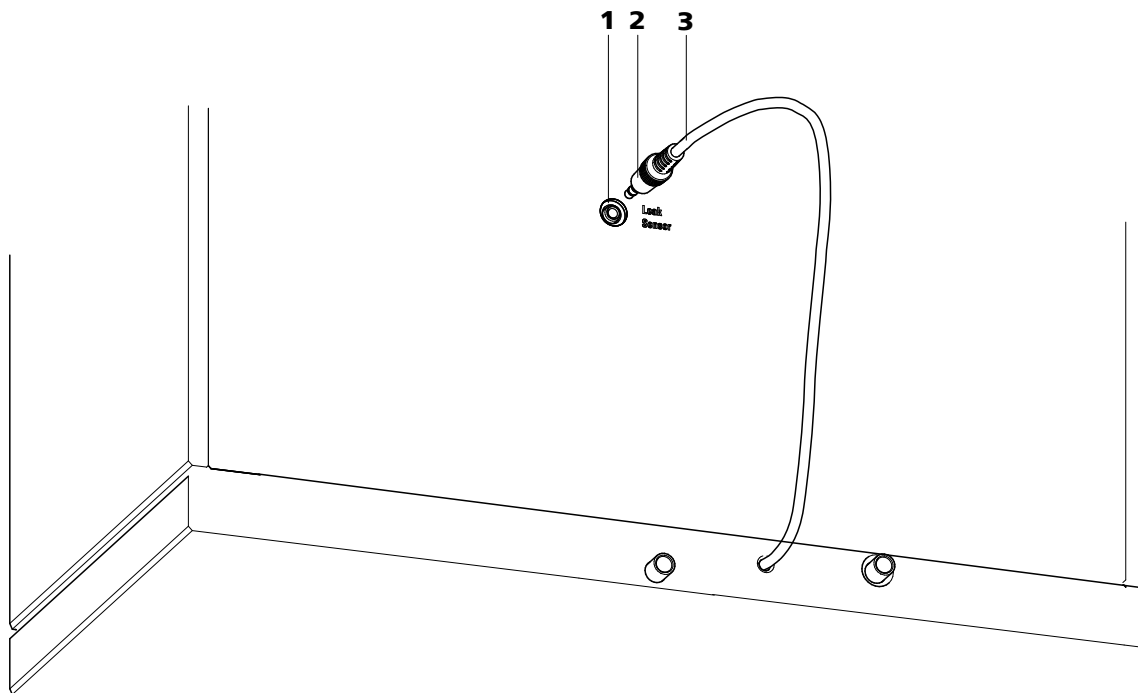

Figure 7 Connection of the leak sensor on the rear of the instrument
- 1 Plug the leak sensor connector plug (7-2) into the leak sensor connection socket (7-1) on the rear of the instrument (see figure 7, page 24).